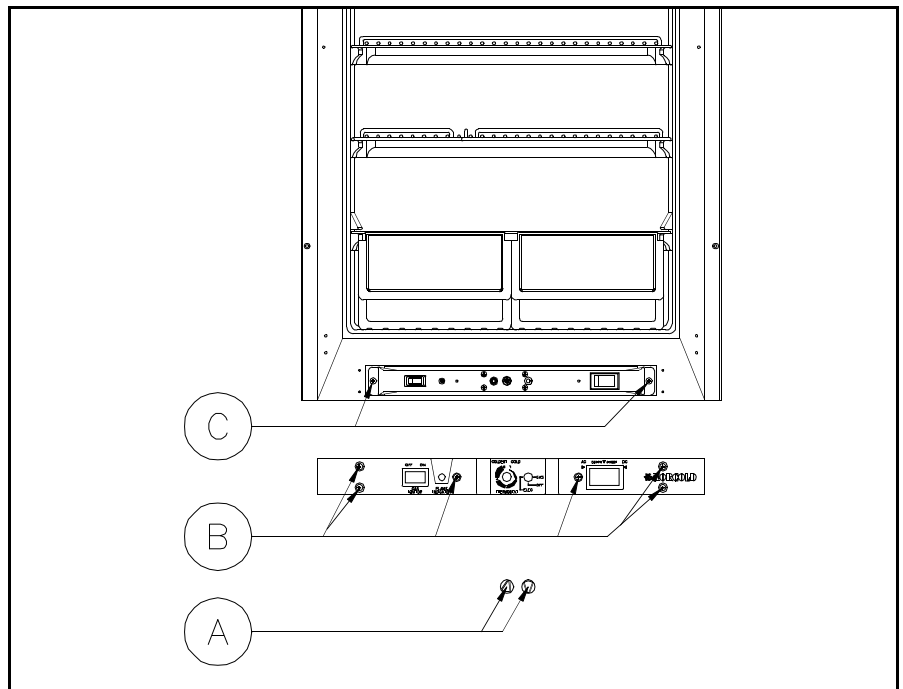
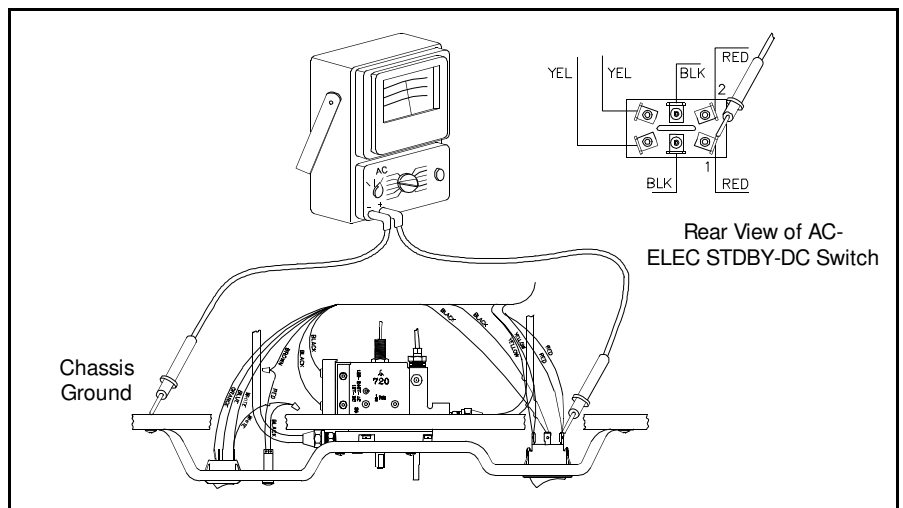

Figure 3.34 Access to Controls
Figure 3.35 120 Volt Check at Switch Inlet
3. We must now gain access to the AC-ELEC STDBY-DC switch. This procedure only applies to 3-way models. On 2-Way models proceed to Step 8. Remove the two knobs (A) and the (6) Phillips head screws (B) from the control assembly as shown in Figure 3.34.
4. Remove the (2) Phillips head screws as shown (C) and pull the control mounting bracket forward.
5. Set AC-ELEC STDBY-DC switch to ELEC STDBY (not AC). With a Volt-Ohm meter, check for 120 Volts AC at Point 1 shown in Figure 3.35. Then check Point 2. One test point should read 120 Volts and the other should read 0 Volts (the point which reads 120 Volts is the switch input terminal). This confirms voltage to the switch. If neither test point reads 120 Volts, check for bad connections.
10. Check for 120 Volts at Point 1 and ground and Point 2 and ground of switch as shown in Figure 3.35 (AC-ELEC STDBY-DC switch is now set at AC).